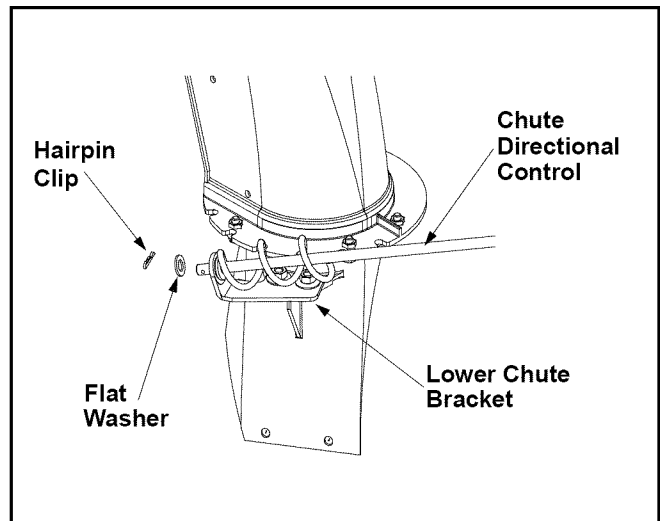

Figure 11
- Place the flat washer on the end of the chute directional control, and insert hairpin clip into hole in the end of control. See Figure 11.